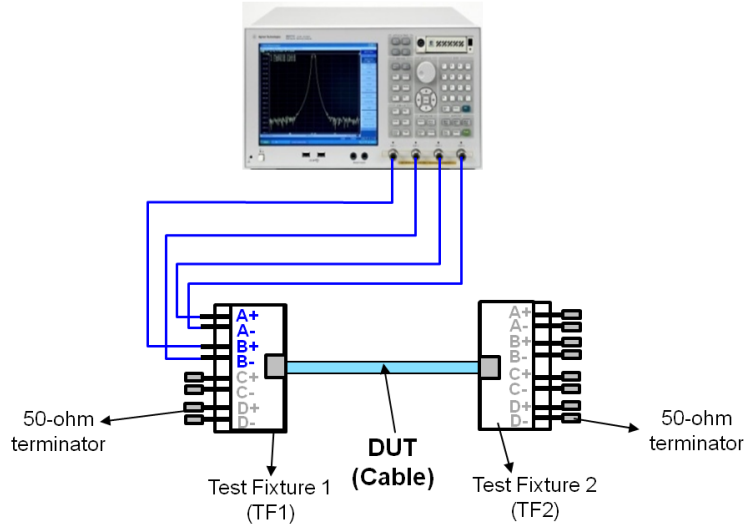

Figure 5-3 Differential Near-end Crosstalk (NEXT) Test Setup
1. Connect the E5071C's ports (Port 1 to 4) and the test fixture with the RF cables. (Figure 5-3)